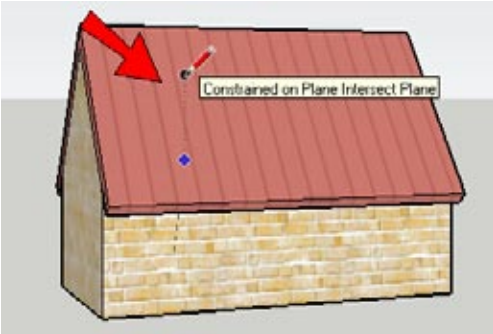

Figure 5-25
3. Move the cursor up to the roof face. The black point at the end of the dashed black inference line follows the cursor, and the dark blue point lets you know where the line will meet the roof face. This is a double constraint: *Constrained on Plane Intersect Plane*. Click where you want to start the dormer (Figure 5-25).